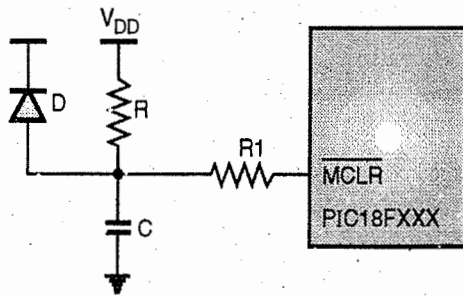

Fig. 4.15.2 : External power-on reset circuit (For Slow  $V_{DD}$  Power-Up)
- $\overline{MCLR}$  pin uses an RC network for power on reset for ESD protection as shown in Fig. 4.15.2.